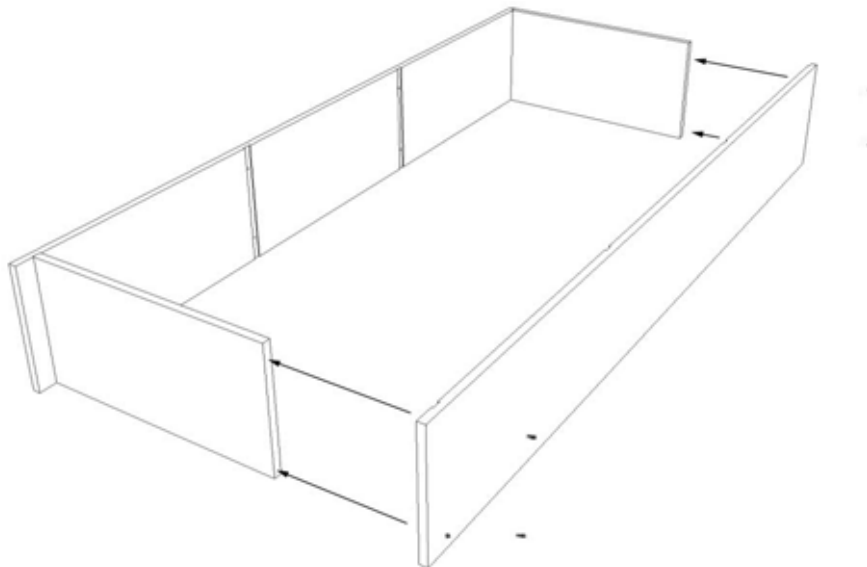

Figure 2
3. Attach the second side panel to the assembly using the pre-drilled holes and screws provided (**Figure 2**).